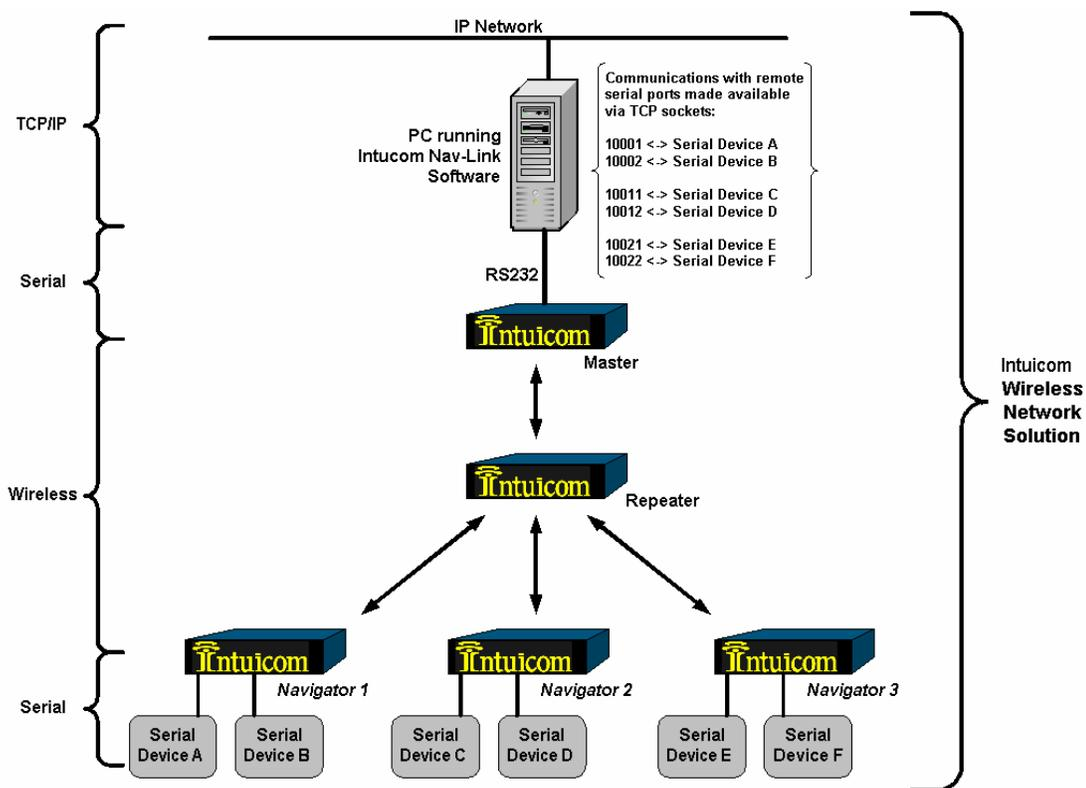

Figure 1-1: Nav-Link for Point-to-MultiPoint Wireless Link
**Figure 1-1** depicts a straightforward Nav-Link 4.0 deployment for a point-to-multipoint network. In this example, Nav-Link Server running on a PC connects via an RS232 cable to a “Master” wireless transceiver – an Intuicom Communicator II.